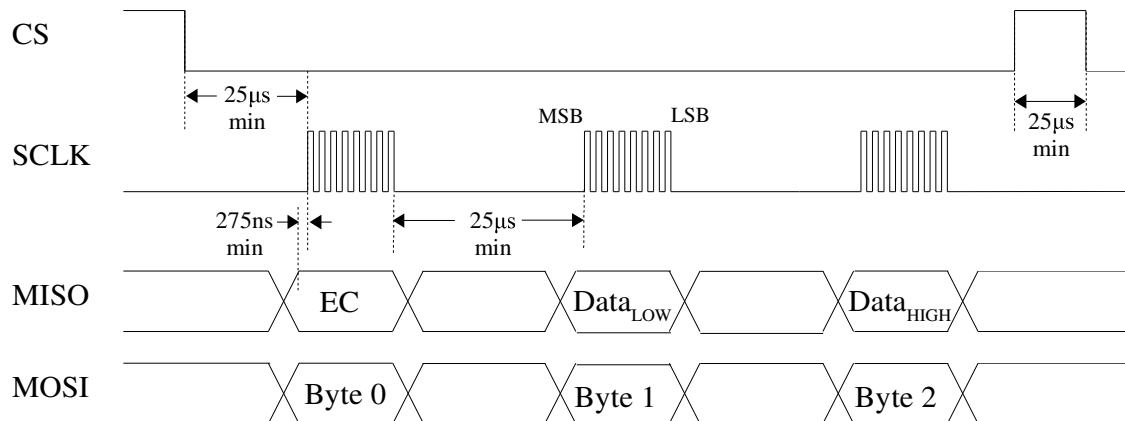

Figure 5. Timing Diagram
The leading edge of the clock should be rising, the trailing edge should be falling, and when at idle the clock should be low. This requires CPOL to be set to zero. Set CPHA to zero so that data is read on the rising edge of the clock and changed on the falling edge. The MSB of the data is transmitted first; therefore set LBSFE to zero. The serial clock (SCLK) frequency can be a maximum of 1.82 MHz. The SPI should adhere to the timing diagrams in Figures 5 and 6.
The error code (EC) is automatically returned when the user microcontroller sends Byte 0 (see Figure 5). The possible values for the EC and their meanings are listed in Table 6.